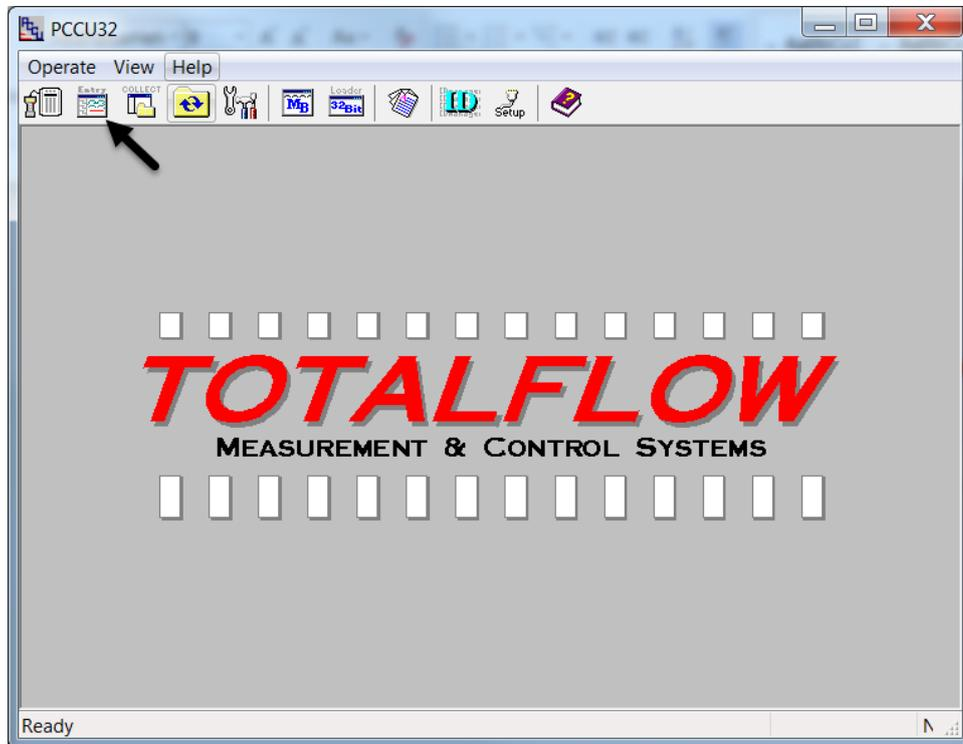

Fig. 1: Main PCCU screen
1. Connect to the device on PCCU entry mode (Fig. 1).